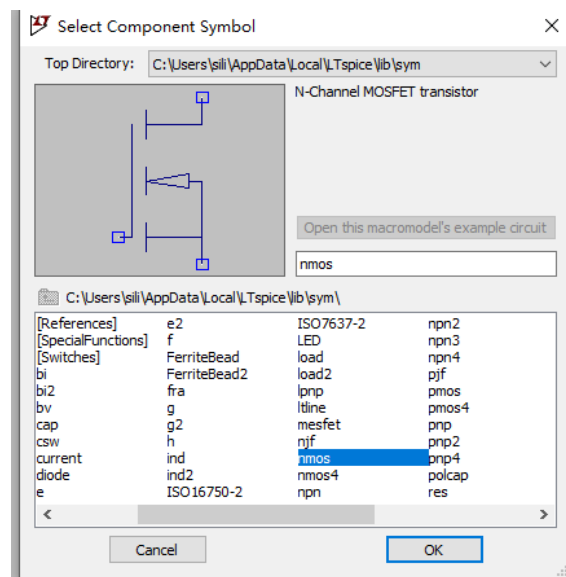

Figure 8: choose nmos symbol
2. Click , in the *Select Component Symbol* page, input **nmos**, choose a MOSFET symbol, as show in Figure 8.